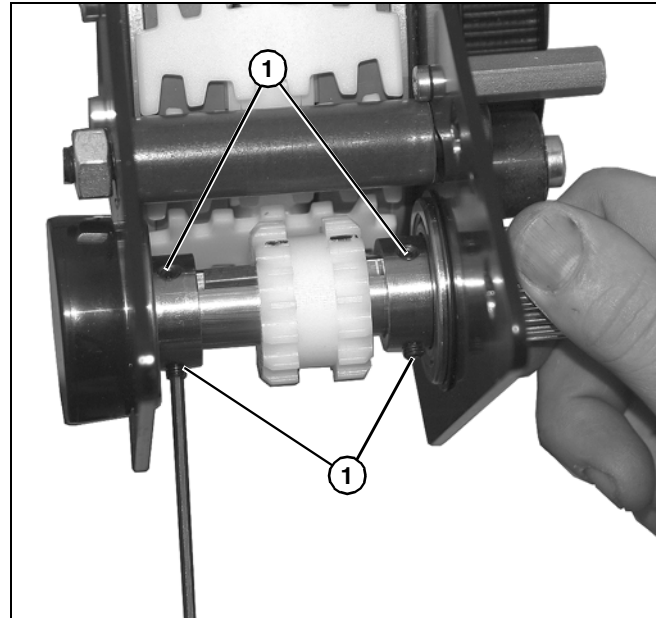

Figure 103
2. Secure drive shaft onto bearings with four set screws (Figure 103, item 1).